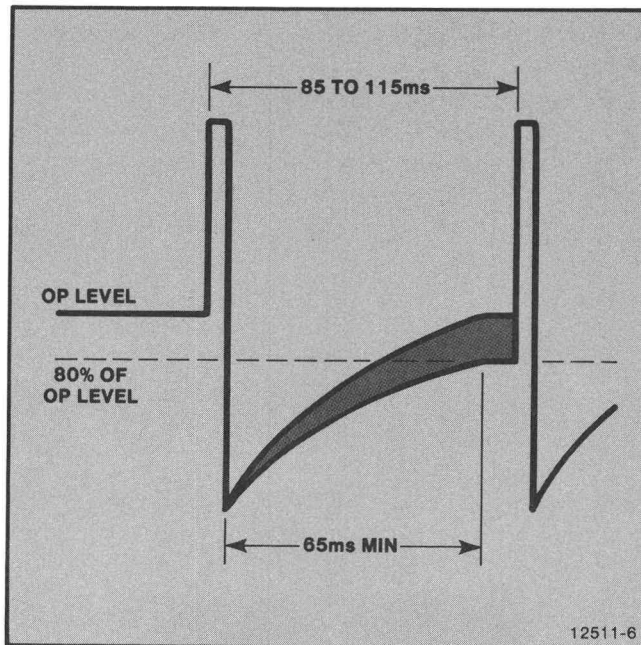

Figure 4-6. First Ramp of Target Erase Waveform.
13. **Refer** to Figure 4-6, which shows the first ramp of the target erase waveform in more detail.